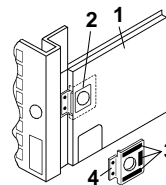

Fig. 28
- If you pick the power line from the front position of the unit, proceed as follows and refer to figure 28: